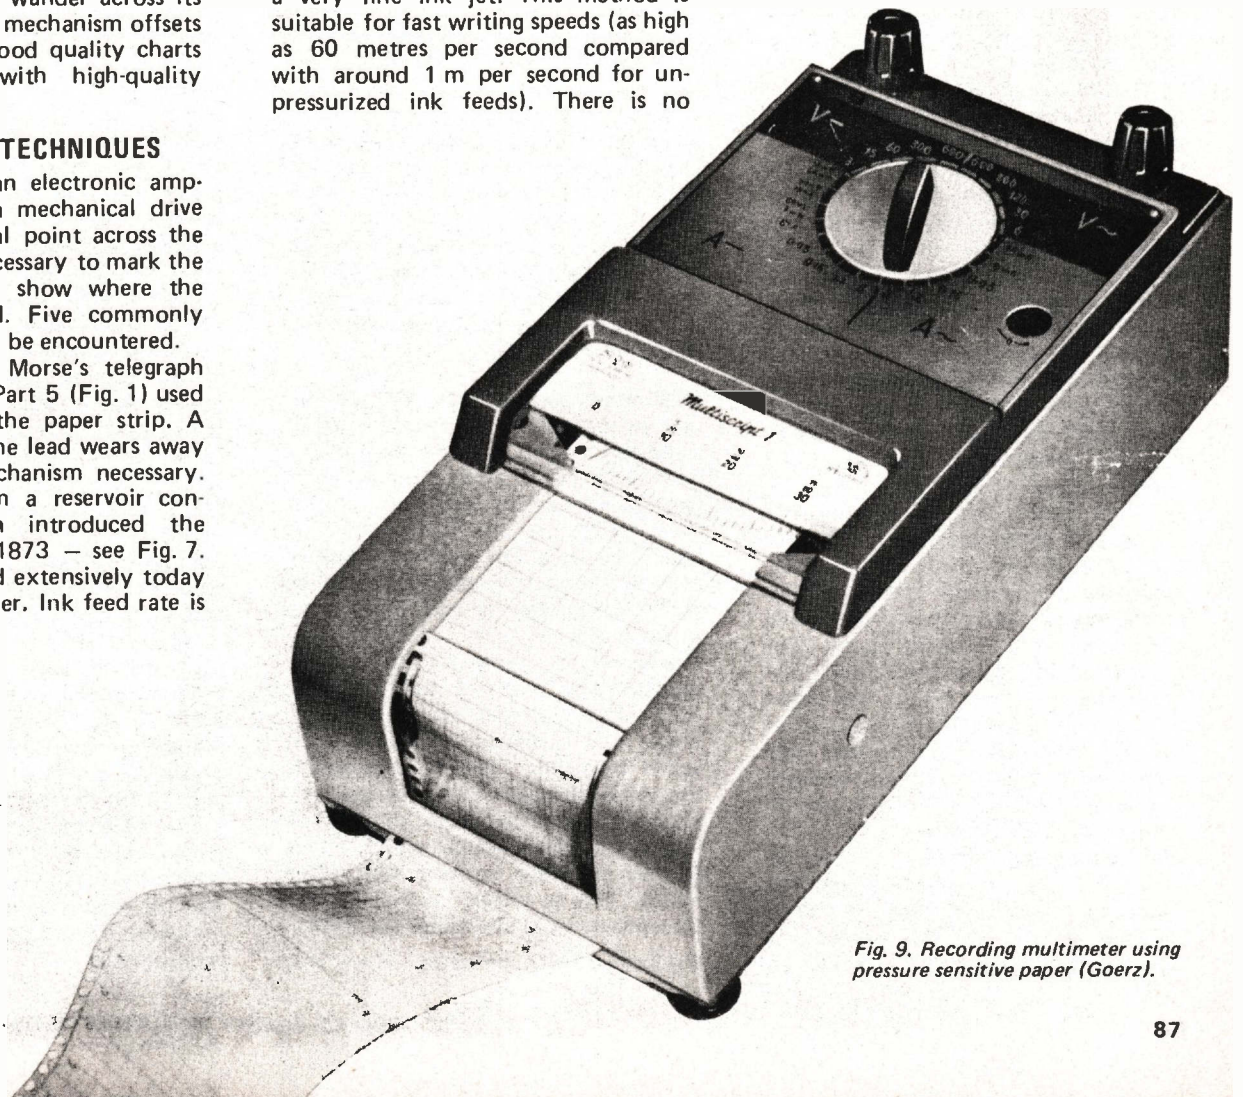

Fig. 9. Recording multimeter using pressure sensitive paper (Goerz).
**Pressure sensitive papers--** Black paper treated with tiny wax beads appears white until the beads are flattened to form a transparent cover window thereby exposing the black. Pressure sensitive papers are marked by the action of a gentle pressure exerted by the stylus. The relatively high contact-force needed restricts these to slow response application. Pressure-sensitive papers are more usually used with marking mechanisms that are periodically pressed against the paper to form a dot. Figure 9 shows a recording multimeter which uses this latter method of marking. Another limitation is that the record can be marked during handling.